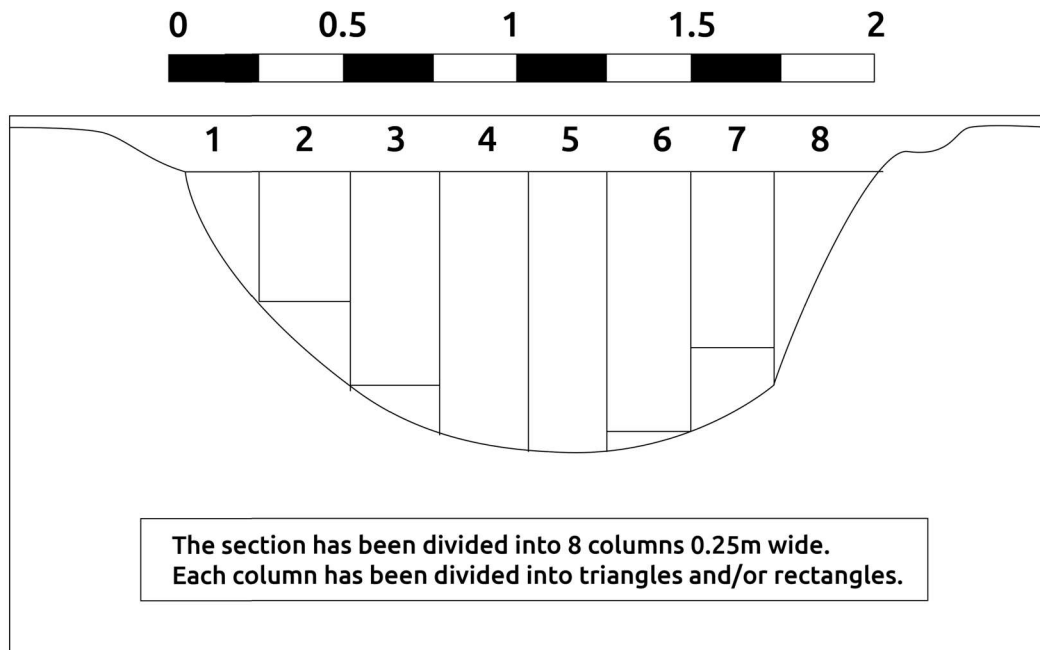

Figure 12 Constructing Water Columns in a Stream Cross-Section
To do the job properly however, it would be necessary to make a series of average flow velocity measurements, and this would require the channel cross-section to be subdivided into a series of columns like those in Figure 12.
Figure 12 shows a stream cross-section which is 2 m wide. The section has been subdivided into columns (**WATER COLUMNS**) 0.25 m wide. According to the geometry of the channel, each column consists of a triangle and/or a rectangle. The area of each column has been calculated using the techniques described earlier and using the scale provided on the diagram. At an appropriate point within each column, the flow velocity would be measured with an impeller. A set of hypothetical velocities and the area measurements are displayed in Table 1, along with the calculations necessary to determine **DISCHARGE** (Q).